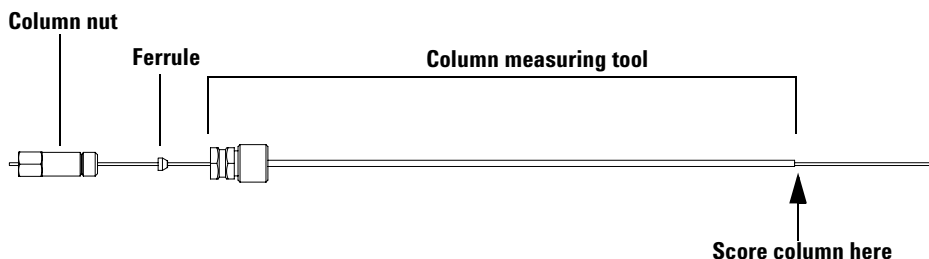

Figure 23 Cutting the column to length
- 2 Insert the end of the column through the column measuring tool (19256-80640) so that the end protrudes beyond the tool (Figure 23).